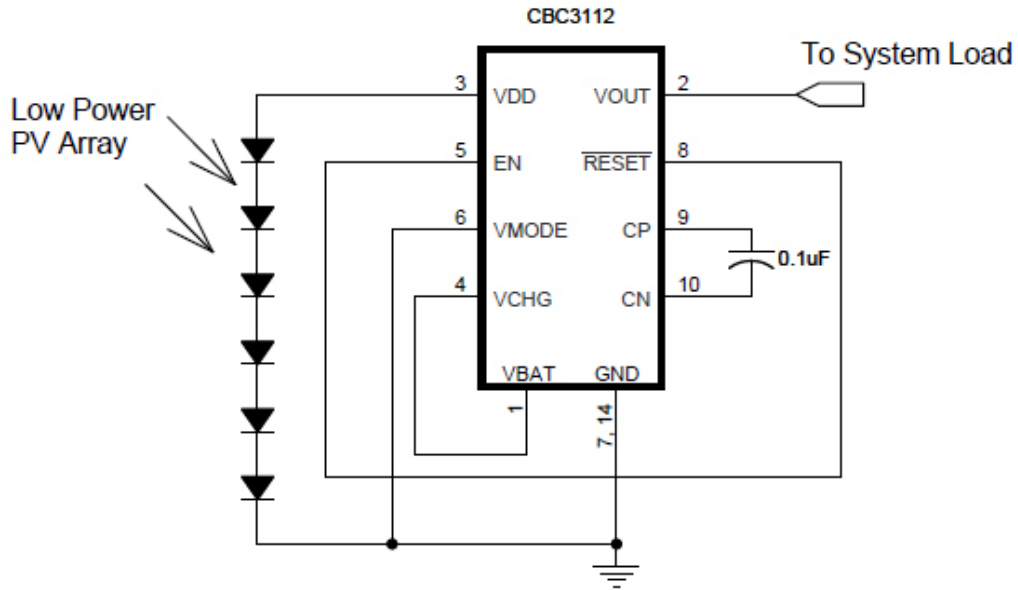

Figure 8: Implementing Energy Harvesting with the CBC910 Embedded in a Package with an EnerChip
⁽²⁾ User-selectable trip voltage can be set by placing a resistor divider from the V_{MODE} pin to GND. Refer to Figure 8.⁽³⁾ The hysteresis is a function of trip level in Mode 2. Refer to Figure 9.
The EnerChip CC can be configured to collect energy from transducers such as low power photovoltaic (PV) cells and use that harvested energy to charge the integrated EnerChip and deliver self-sustaining power to components such as microcontrollers, sensors, and radios in wireless systems. The schematic of Figure 8 illustrates the feedback connection made from RESET to EN to implement the energy harvesting function with a CBC3112. In order to make most efficient use of the power available from the transducer (for example, a PV cell), it is necessary to know the electrical characteristics including voltage and peak power point of the transducer being used. For assistance in designing your system to effectively harvest energy from a power transducer in a specific environment, contact Cymbet Applications Engineering.